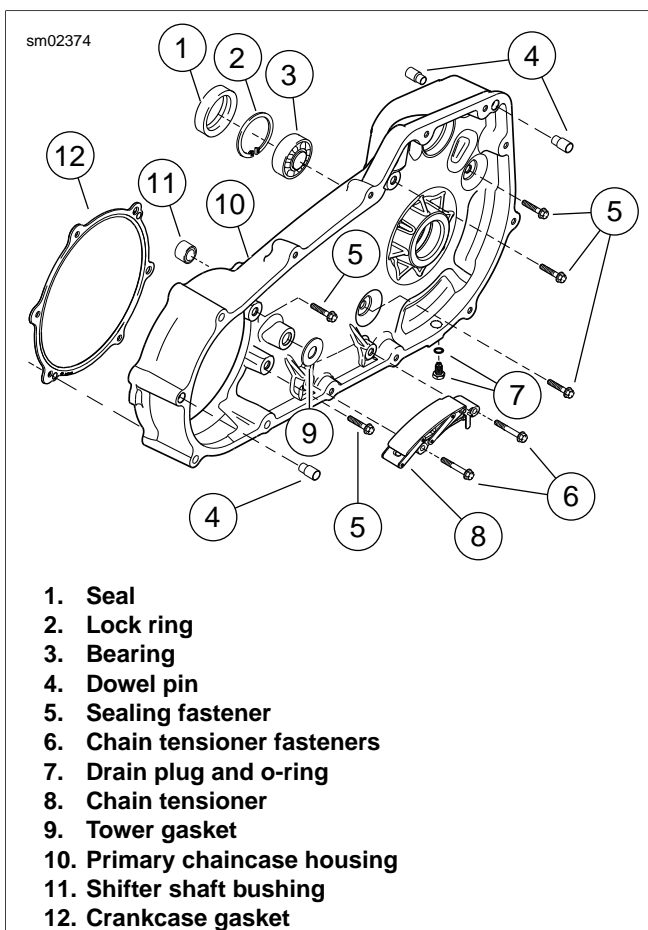

Figure 5-19. Primary Chaincase Housing
5. See Figure 5-19. Remove five sealing fasteners (5) and remove primary chaincase housing (11). Discard the crankcase gasket (10) and sealing fasteners.